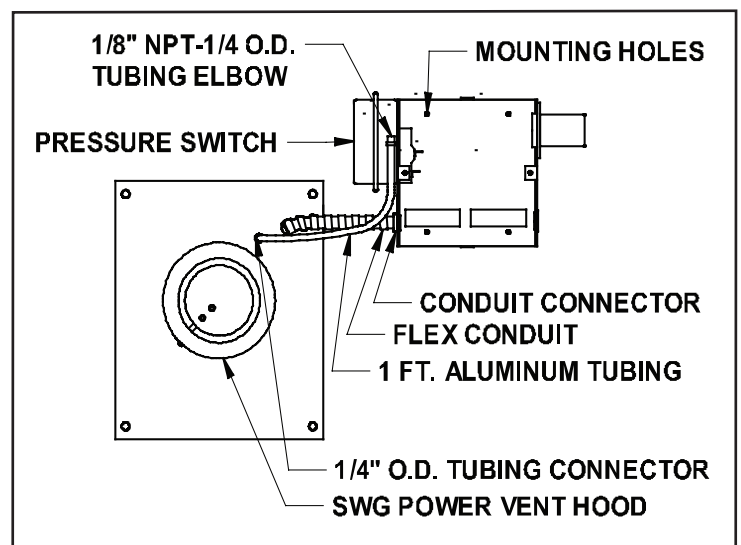

Figure 3
2. Fasten the flexible conduit from the SWG Venter into the conduit connector. Mount the CK-65 junction box or installer supplied junction box onto the wall or floor joist without straining the flexible conduit. Fasten the CK-65 junction box through the four dimpled locations on the base of the box. (See Fig. 3)
1. Attach the 1/4" tubing connector to the pressure tube on the SWG Venter. (See Fig. 3)